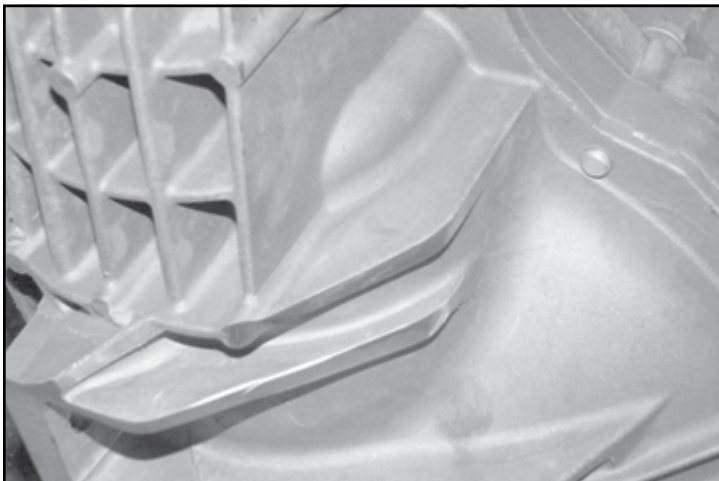

**FIGURE 11**
14. Remove the factory studs from the differential mount and discard the differential mount. **SEE FIGURE 11**